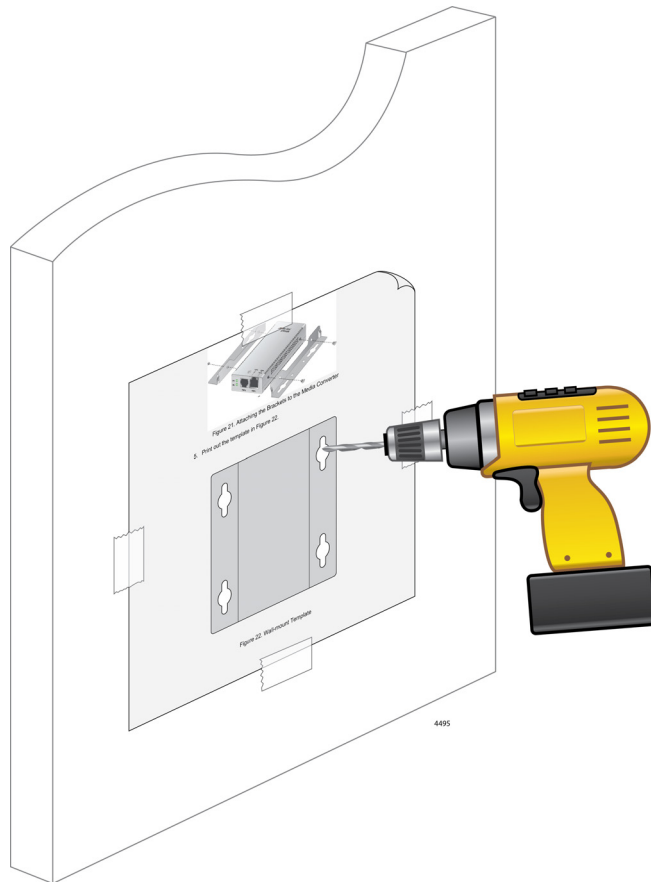

Figure 23. Placing the Template on the Wall
7. Pre-drill four 3/16" (5mm) holes at the locations on the templates as shown in Figure 23.